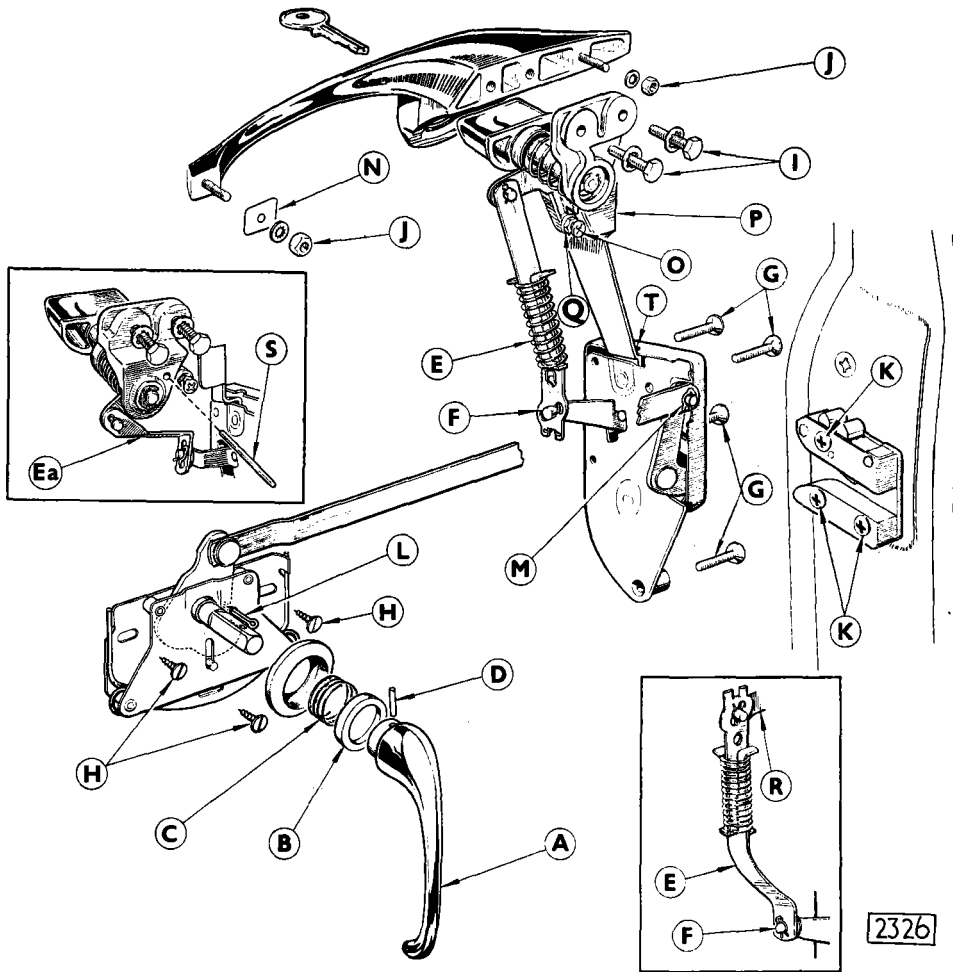

Fig. 1. Exploded view of the door lock.
First release the spring clip holding the bottom of the outside handle connecting link (E or Ea, Fig. 1) to the dowel (F) on the intermediate lever. This is accessible through an aperture in the inner door panel.